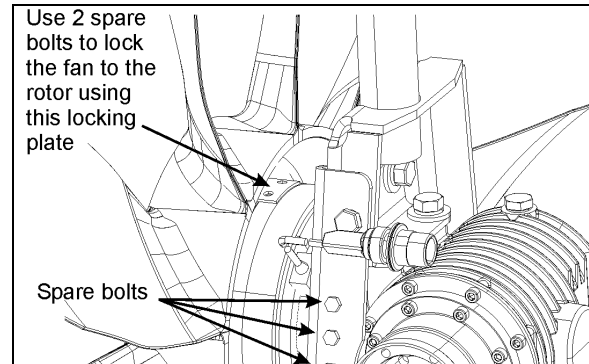

FIGURE 25: MECHANICAL LOCKING 05124
- Screw in and tighten the spare bolts (Fig. 25).